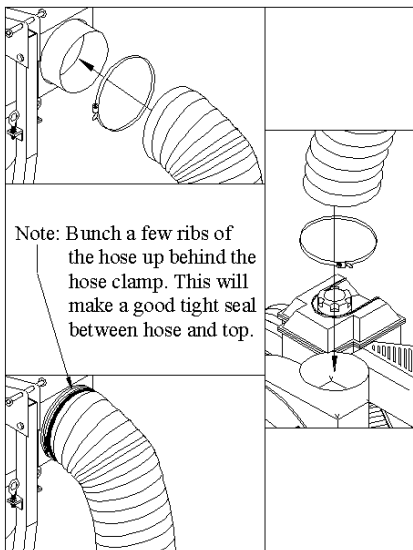

Fig. 7
7. Slip exhaust hose over turbine housing (5) neck and tighten clamp. Slip hose clamp (22) over exhaust hose (23) and over intake nozzle (17), and tighten clamp. On the intake side bunch the hose up against the molded top for a good airtight fit. Fig. 7